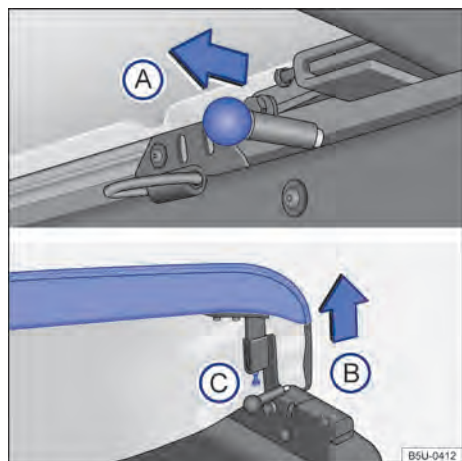

Fig. 48 Bed canvas stretching adjustment locks and bolt.
- Move the locking pin → Fig. 48 ⓐ in the direction of the arrow, in both sides, simultaneously.